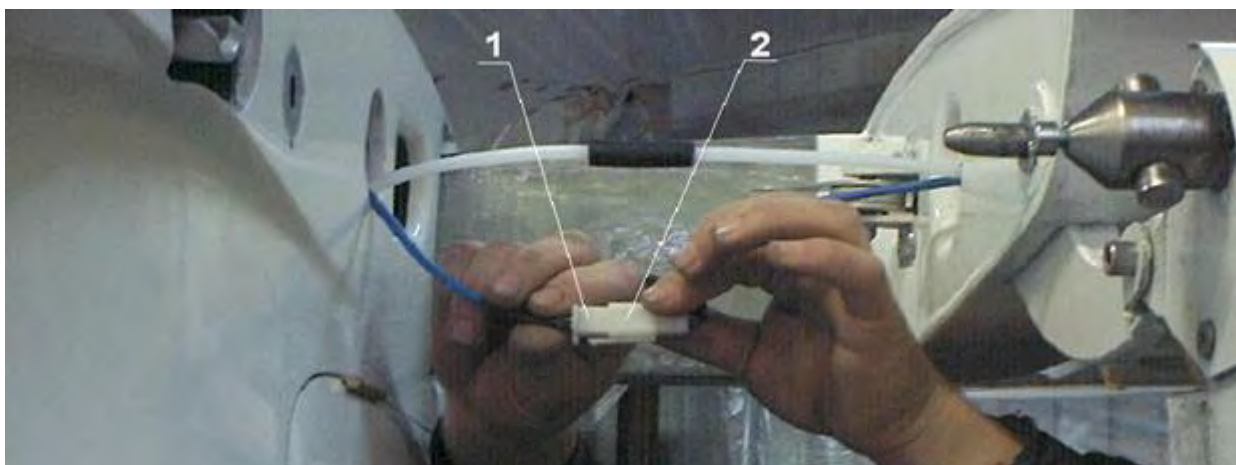

Fig. 4
- 3) Connect all fuselage-to-wing wiring, e.g. connect the position and strobe lights socket and plug (1 and 2) (Fig. 4).